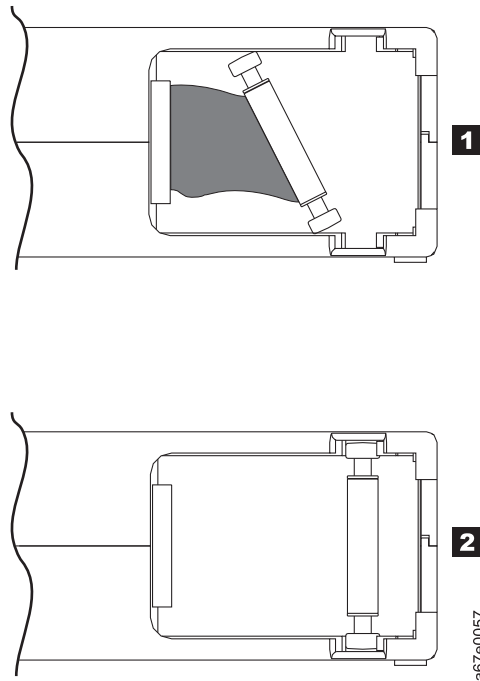

Figure 9-7. Leader pin in the incorrect and correct positions. The cartridge door is open and the leader pin is visible inside the cartridge.
- Do not drop the cartridge. If the cartridge drops, slide the cartridge door back and ensure that the leader pin is properly seated in the pin-retaining spring clips (see **2** in Figure 9-7 on page 9-17). If the leader pin is dislodged, go to “Repositioning a leader pin” on page 9-17.
A leader pin that is improperly seated inside a cartridge can interfere with the operation of the drive. Figure 9-7 shows a leader pin in the incorrect **1** and correct **2** positions.